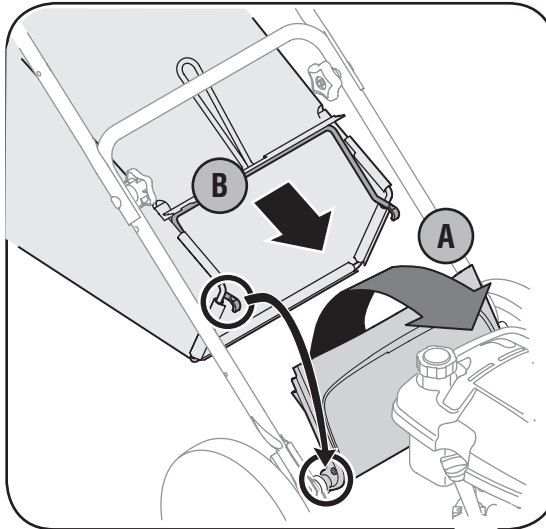

Figure 3-8
- a. Lift the rear discharge door on the mower, and place the grass catcher on the pivot rod. Let go of discharge door so that it rests on the grass catcher. See Figure 3-8.
- a. Lift rear discharge door on the mower as shown in Figure 3-8. Lift grass catcher up and out, off of the pivot rod. Release rear discharge door to allow it to close rear opening of mower.